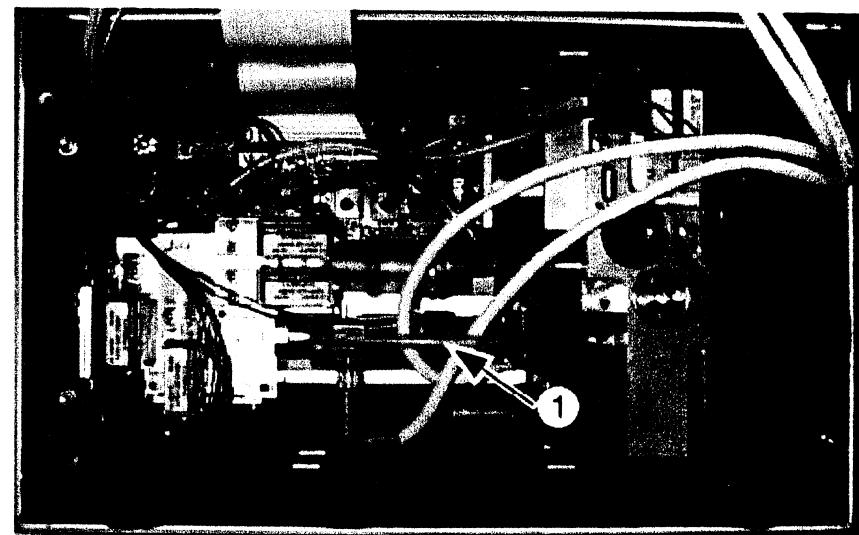
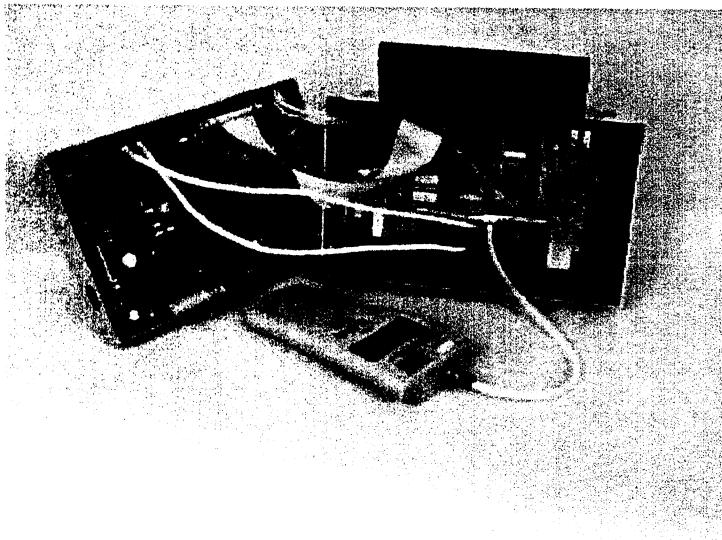

Fig. 2 Connector block tube
Fig. 3 Setting the pressure reducer test set-up
1. Remove tube Fig. 2/1.
2. Connect a tube with T-piece and pressure gauge Fig. 3 in place of the tube Fig. 2/1.